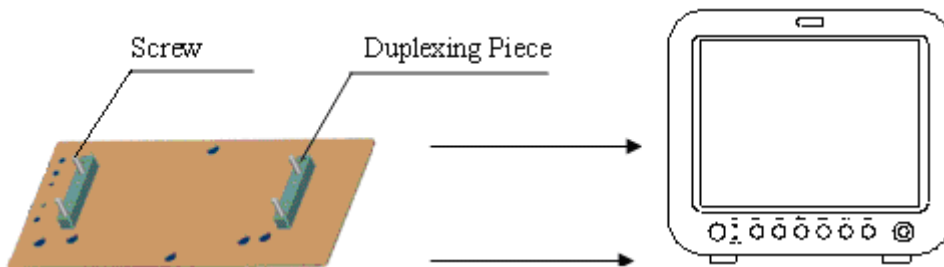

Figure 2-3
6. Face the side with duplexing piece of the device holding plate to the underside of the patient monitor, fix it with an M4×25mm screw (as shown in Figure 2-3).